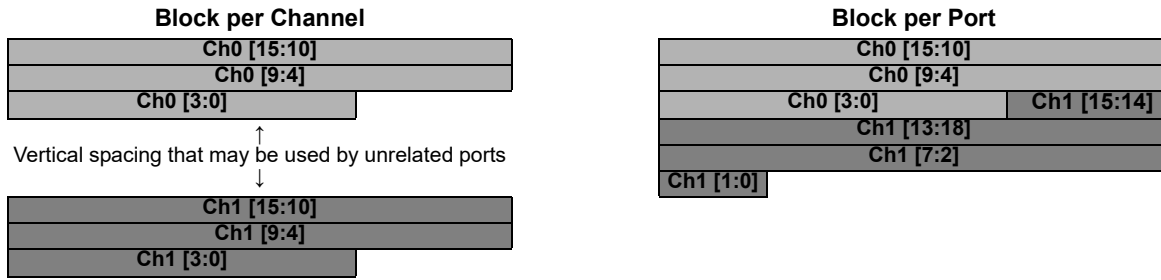

Figure 4-26. Block Packing Mode
- Payload data block refers to blocks of data within a frame, as controlled by BLOCK_PACKING_MODE (see p. 129) and shown in Fig. 4-26: